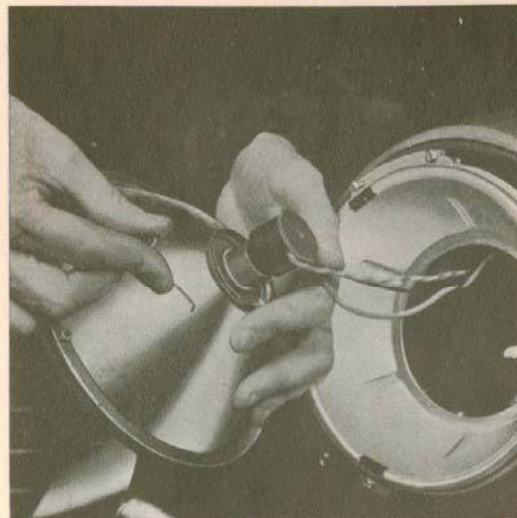

Fig. 10-65. Removing the bulb holder
2. Remove the spring which holds the bulb holder to the insert and lift out the bulb holder, Fig. 10-65, then remove the old bulb.